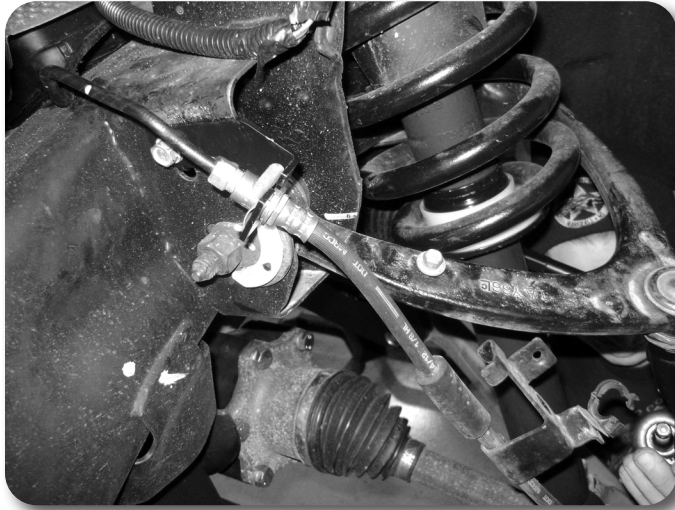

Figure 29
59. Attach the provided brake line bracket to the upper control arm mount using the original mounting bolt so the bracket tab fits in the frame hole. **Figure 29** Leave hardware loose.